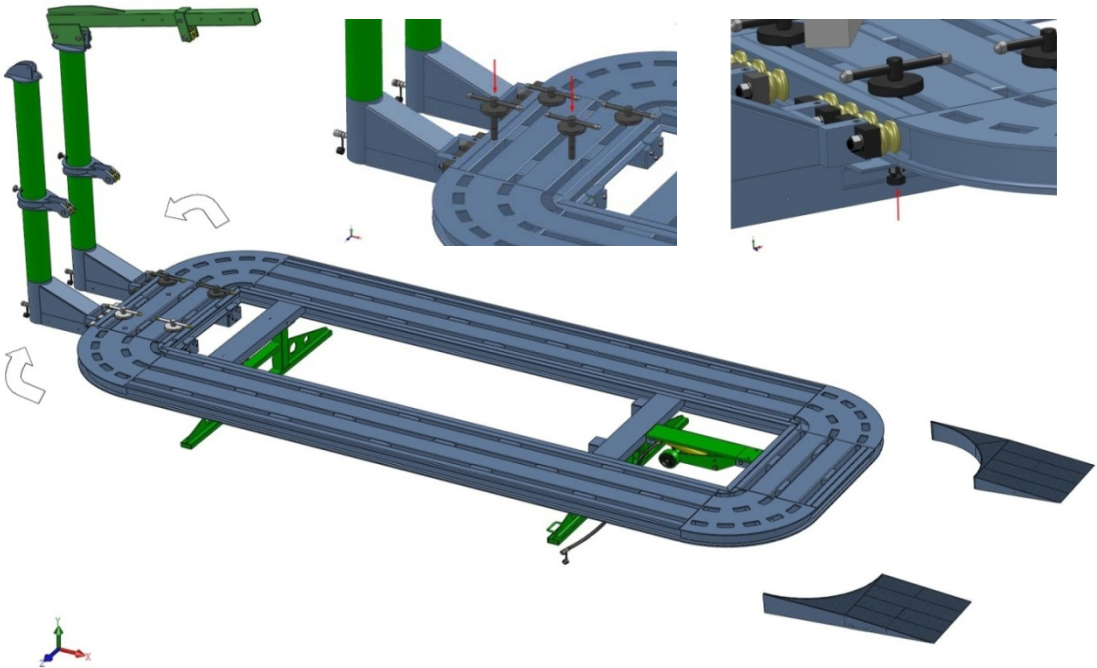

Figure 6.27
A. Before loading the car, two post should be fixed at the fixed support end of the platform. See figure 6.27